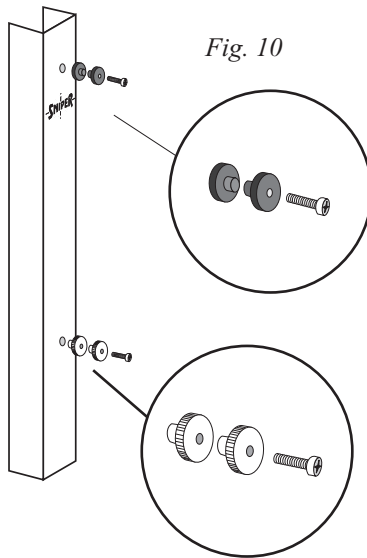

Fig. 10
1. Attach the pins to the mast using phillips head bolts as shown. Attach the top bolt with two plastic washers. Attach the bottom bolt with two metal "thumb nuts" (inside nut should be a lock nut allowing outside nut to turn freely), see fig. 10.